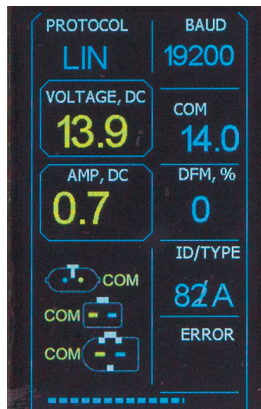

Fig. 18. MS004COM
- **PROTOCOL:** voltage regulator protocol indicator (voltage regulators with COM terminal only) **(Fig. 18)**.
- **BAUD:** indicator of data exchange speed indicator of a voltage regulator (voltage regulators with COM terminal only) **(Fig. 18)**.
- **COM:** indicator of set stabilizing voltage of a voltage regulator (voltage regulators with COM terminal only) **(Fig. 18)**.
- **ID/TYPE:** ID and voltage regulator type indicator (voltage regulators with COM terminal only) **(Fig. 18)**.
- **ERROR:** voltage regulator error indicator (voltage regulators with COM terminal only) **(Fig. 18)**.